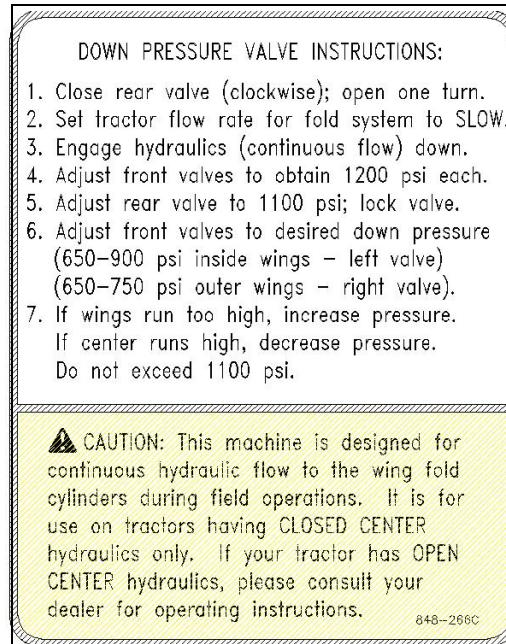

Figure 22
- ⚠** This setup procedure is for tractors with closed-center or pressure compensated flow hydraulic systems. Open center hydraulics not supported. Adjust down pressure valve as shown on decal ④ (located on front of left side of center frame) **Refer to Figure 22**